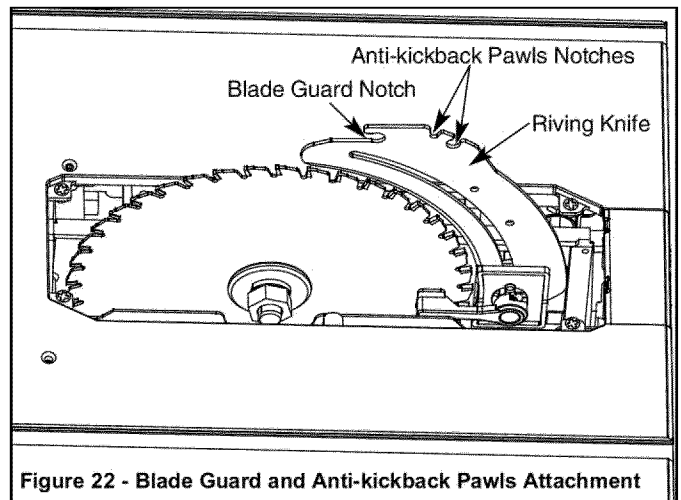

Figure 22 - Blade Guard and Anti-kickback Pawls Attachment
- Place the slot of blade guard body over the riving knife. Slot of bushing is placed in the notch indicated in Figures 22 and 24.